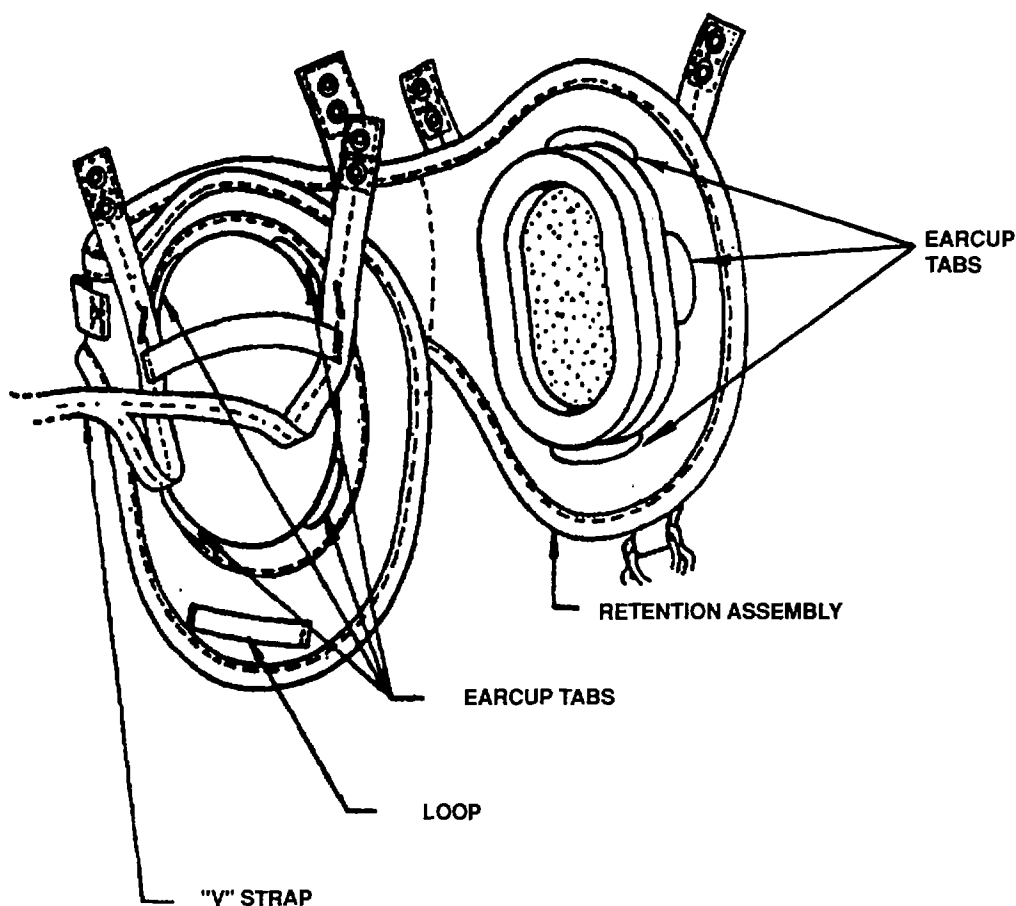

Figure 3-8. Replacement Earcups Installed
3. Working around edge of earcup, carefully use screwdriver or awl to lift retention over earcup tabs. Position retention so that the four corner earcup tabs are visible on outside of retention (See Figure 3-8).